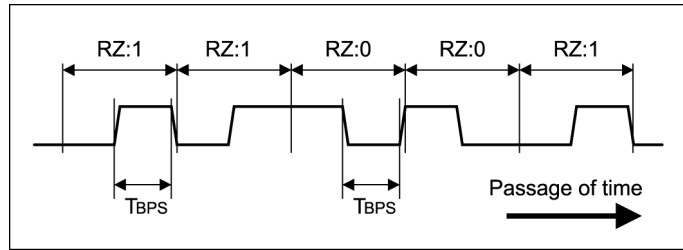

Fig. 7 RZ (Return to Zero) Comprising CP and RP
- The HLS CP and RP consist of two values (Hi and Lo of a given width) of **RZ** (Return to Zero or “Manchester code”) that function in pairs (Fig. 7).